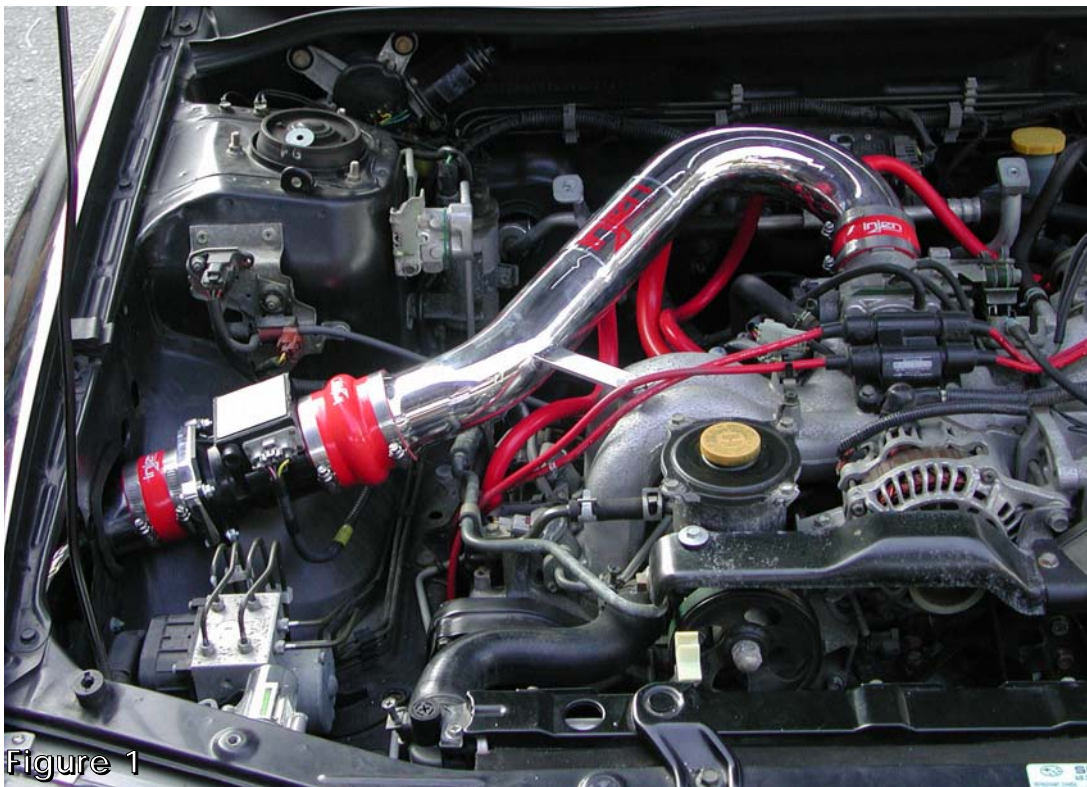

Figure 1
10. Align the entire intake for best fit. Once proper clearance has been made continue to tighten all nuts, bolts and clamps. See fig. 1